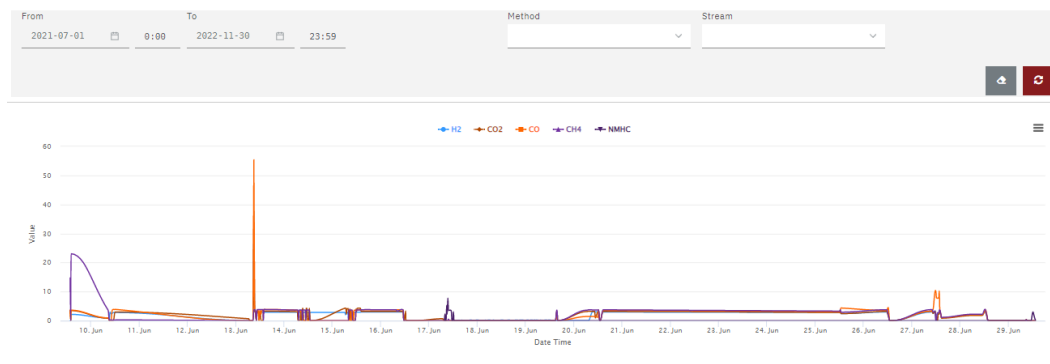

Figure 65: Peak graph
- 1- This button allows you to see the peak graph and the sensor graph. As shown in Figure 65, the peak graph is a trending of the impurities' concentration. The sensor graph is trending like the peak graph, but it allows you to see the raw signal of the sensor over time. This feature can be useful for diagnostic and troubleshooting.